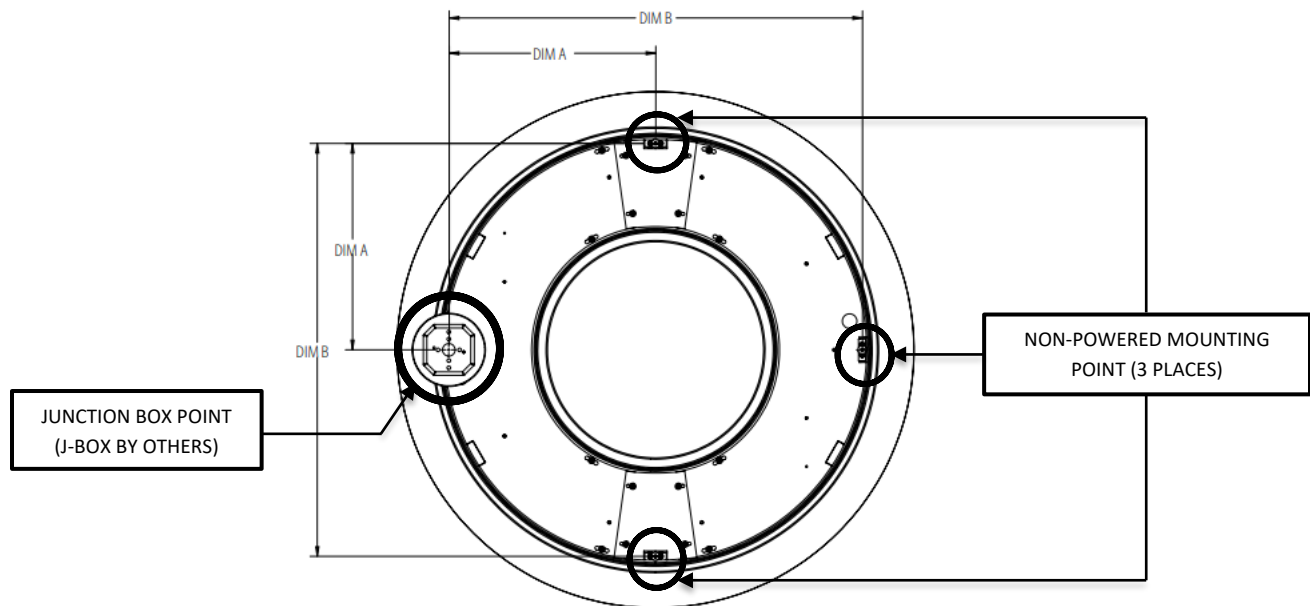

FIG. 7 - TOP VIEW SHOWING MOUNTING INFORMATION
1. Mark location for the J-BOX MOUNTING POINT according to the MOUNTING INFORMATION TABLE and FIG. 7.